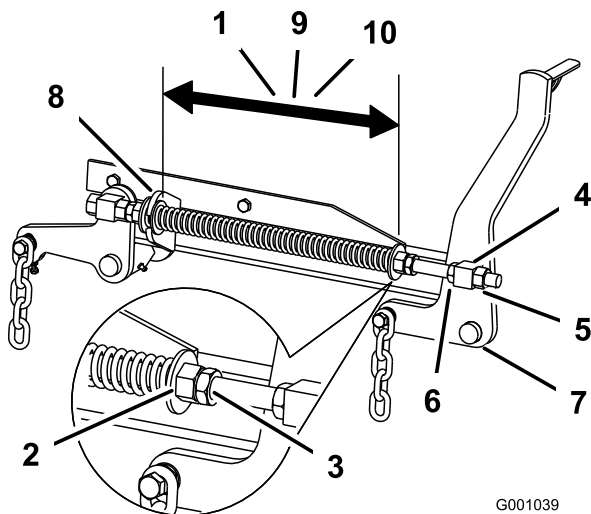

Figure 84
2. Check the distance between the two large washers, it needs to be 11-1/8 inches (28.2 cm) for 52 inch mower decks, 10-1/2 inches (26.7 cm) for 60 inch mower decks or 11-1/2 inches (29.2 cm) for 72 inch mower decks (Figure 84).
3. Adjust this distance, by loosening the spring jam nut and turning the nut in front of each spring (Figure 84). Turning the nut clockwise will shorten the spring; counter-clockwise will lengthen the spring.
4. Lock the nut into position by tightening the spring jam nut (Figure 84).